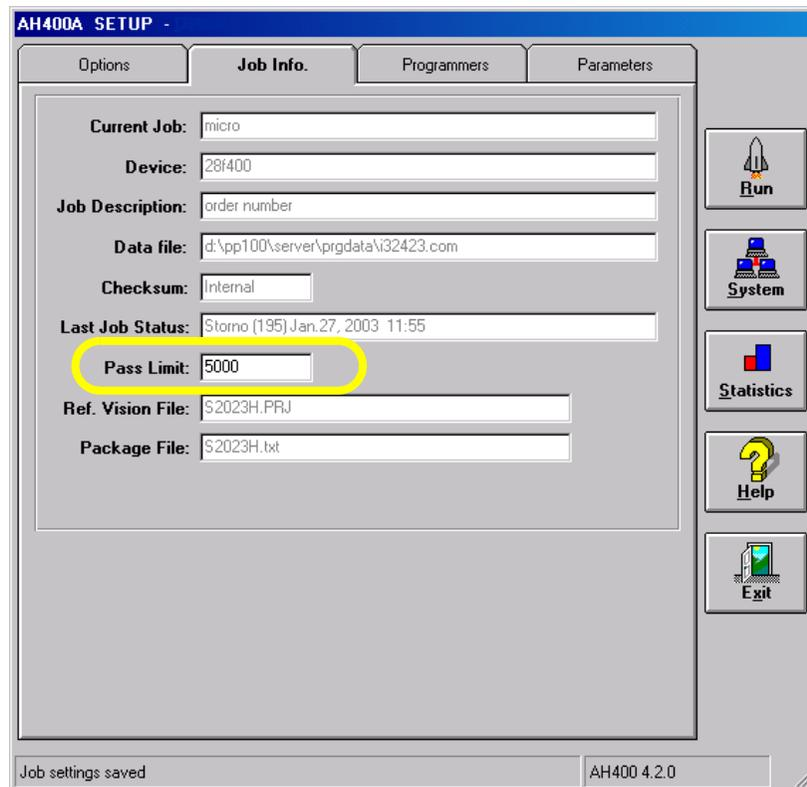

Figure 3-10—New Pass Limit
- 2b) Enter the new Pass Limit value (for example, 5000) and click **OK**. The new Pass Limit is then displayed on the Job Info tab. See Figure 3-10.